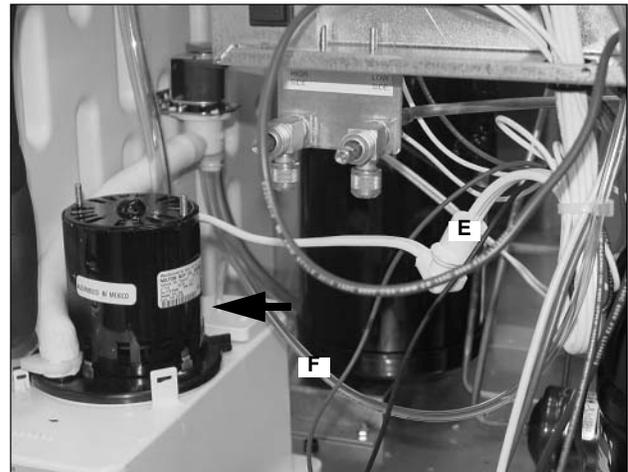

Figure 11.
8. Disconnect the Water Pump plug (E) and Transducer Pressure Hose (F) (Figure 11).